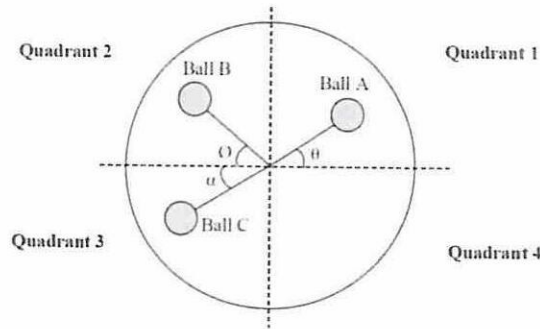

Figure Q3.1
- Q3** A disc is out of balance as illustrated in **Figure Q3.1** because there are three balls A, B and C attached to it. The three balls are said to be coplanar and they rotate about a common center. A fourth ball D is added to balance the disc.